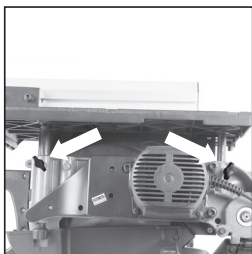

FIG. 17
- Loosen the two table pillar wing nuts, one to the front, and one to the rear underneath the machine table. (**Fig. 17**)